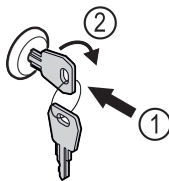

Fig. 180
- ▶ Insert the key. Fig. 180 (1)
- ▶ Turn the key clockwise by 90°. Fig. 180 (2)